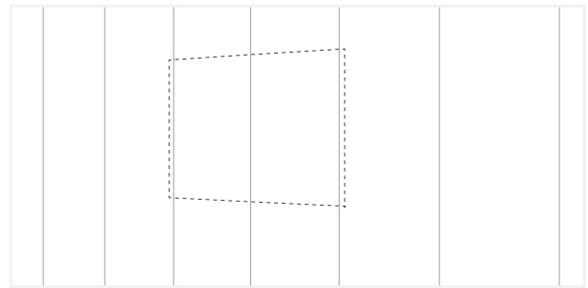

Fig. 58
2. Measure and mark where the mounting points are located. (Fig. 58)